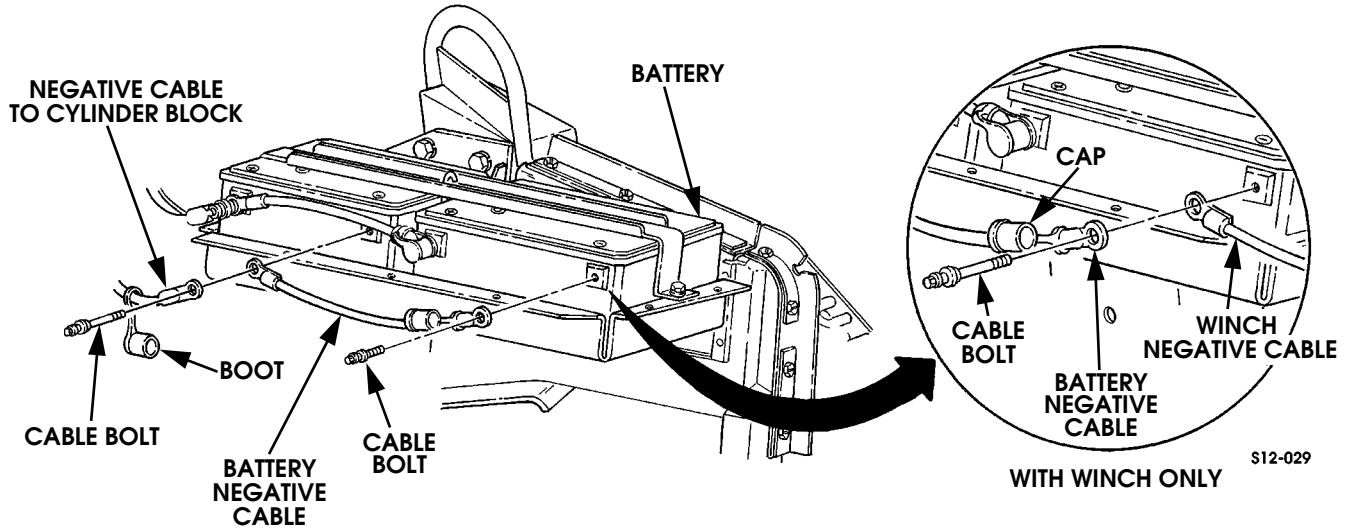

Figure 12-5: Battery Negative Cable Connections
1. Remove caps from battery negative cable (Figure 12-5).
3. Disconnect winch negative cable, if equipped (Figure 12-5).